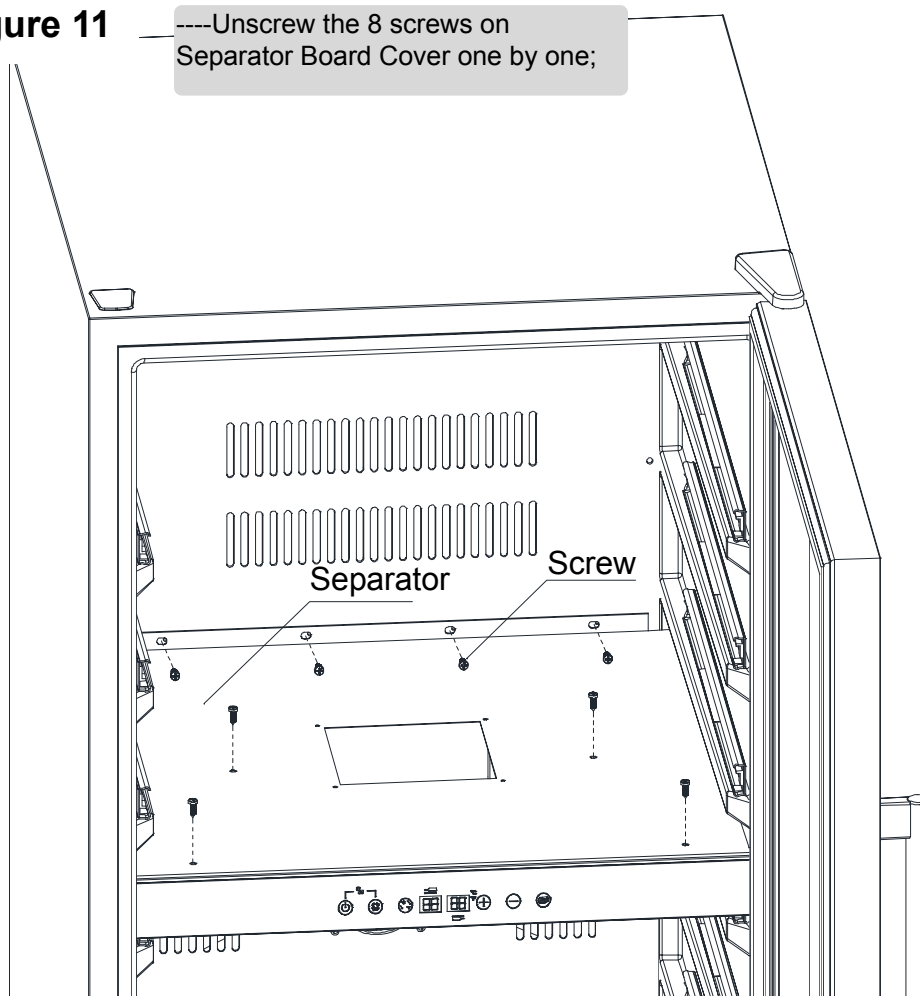

Figure 12
- Unscrew the 8 screws on Separator Base one by one (**Figure 12**);